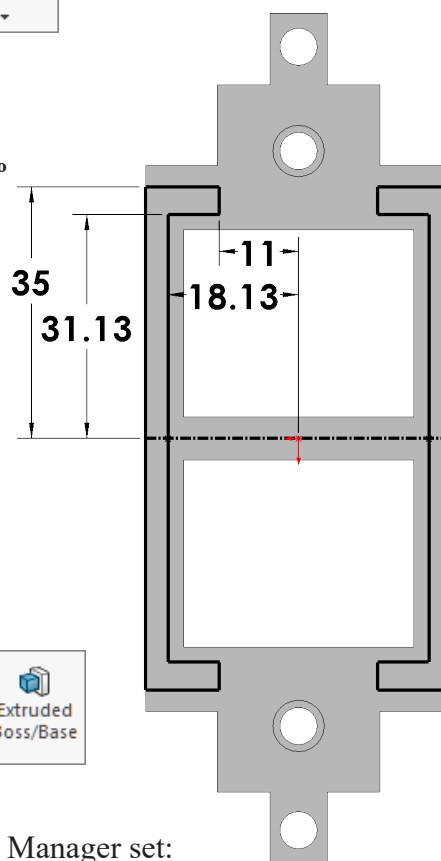

Fig. 40
Step 13. Click **Smart Dimension**  (S) on the Sketch toolbar.
Step 14. Add dimensions, **Fig. 40**.